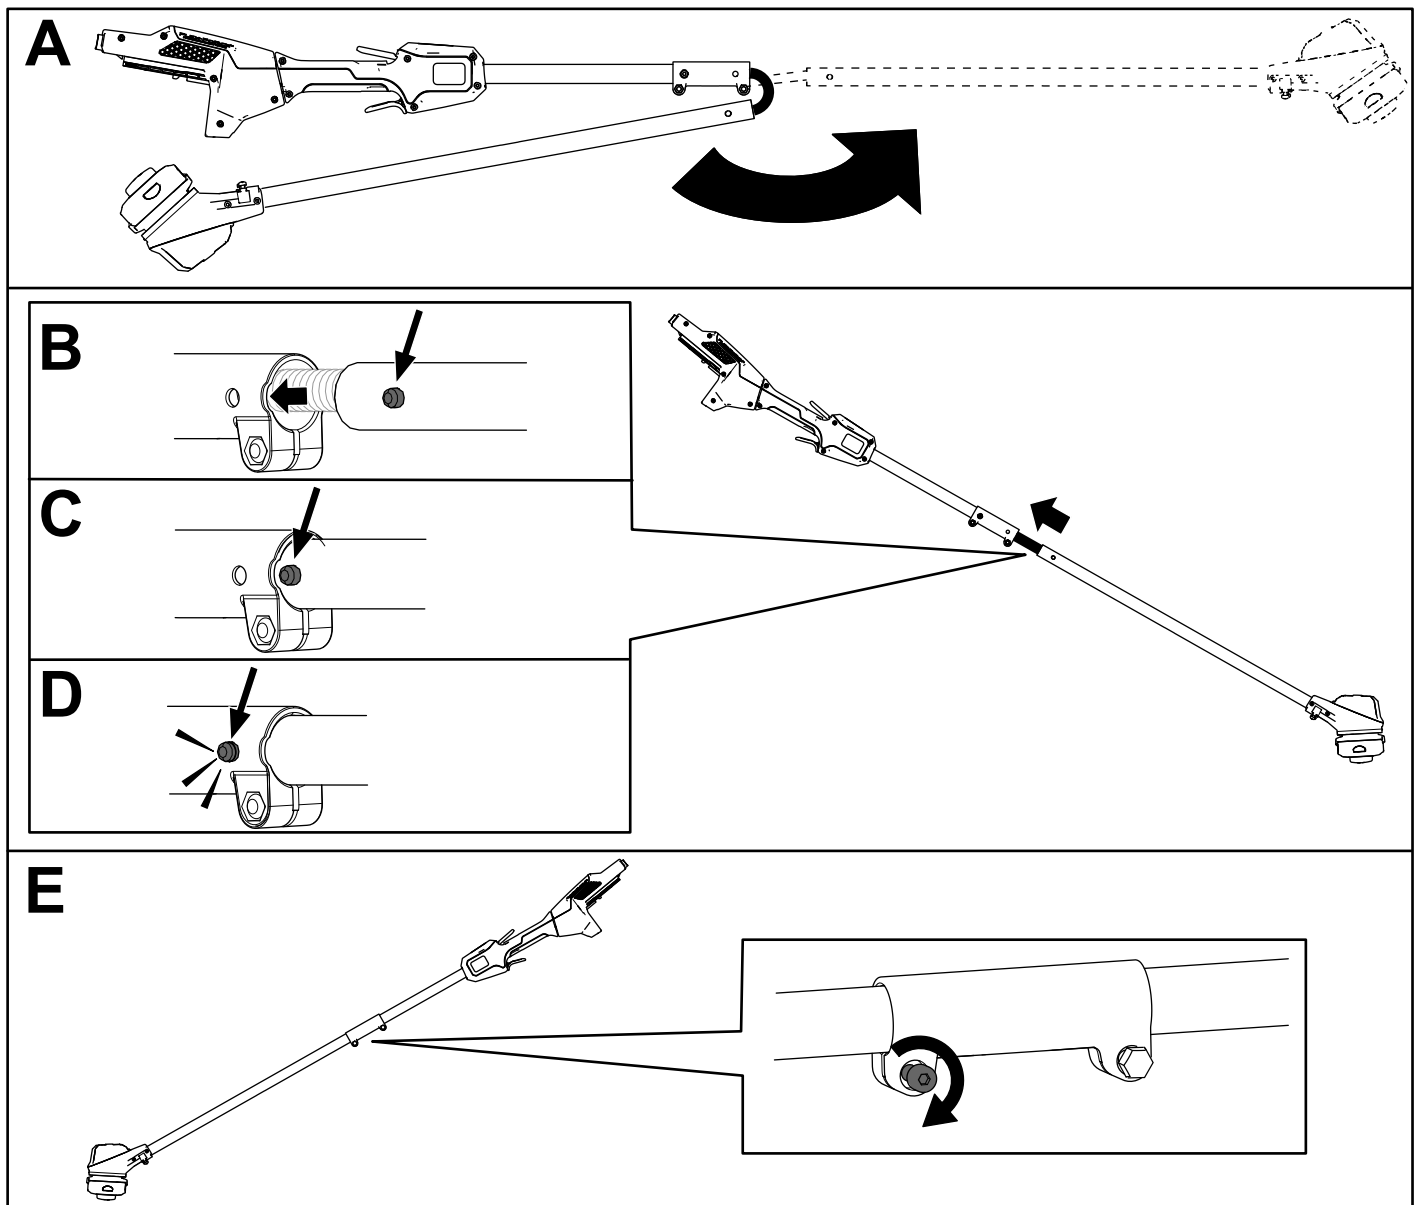

Figure 1
1. Unfold the handle (A of Figure 1).
2. Align the locking button on the lower shaft with the slotted hole on the upper shaft and slide the 2 shafts together (B and C of Figure 1).
**Note:** The locking button clicks into the slotted hole when the shafts are secured (D of Figure 1).
3. Using the provided Allen wrench, tighten the screw on the shaft connector until it is secure (E of Figure 1).